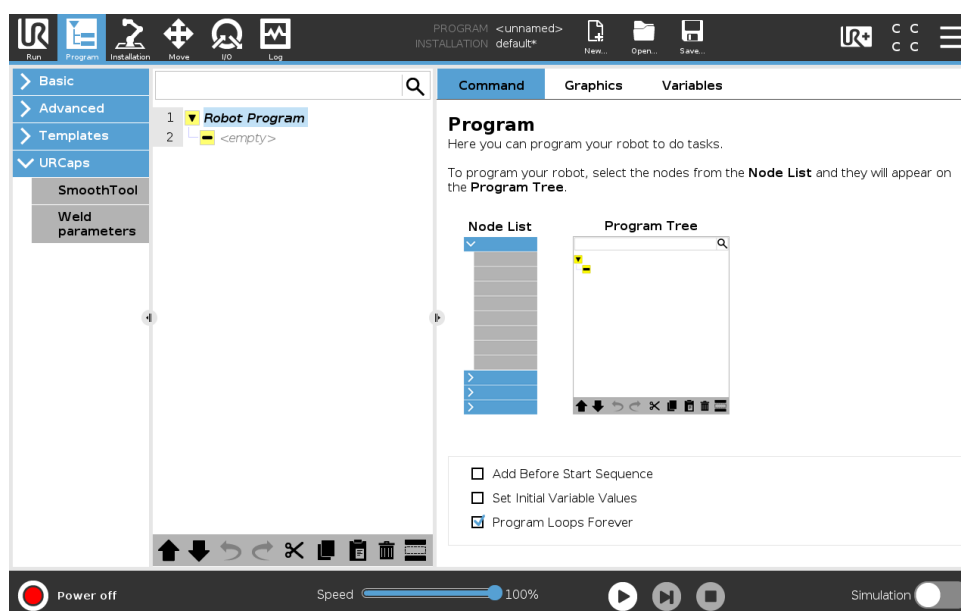

Figure 5.1: View of the programming page on startup.
- On e-series: SmoothTool can be found under the menu to the left in the program page (see figure 5.1).